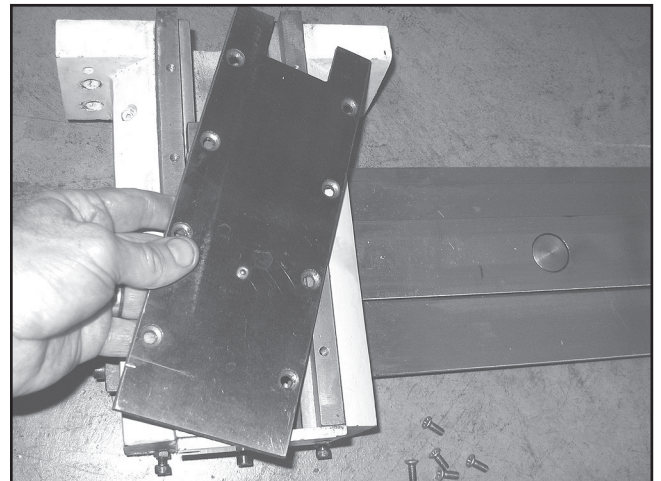

Figure 6. Top plate removal.
6. Using a #2 Phillips screwdriver, remove the eight flat head screws and the taper attachment top plate (Figure 6).